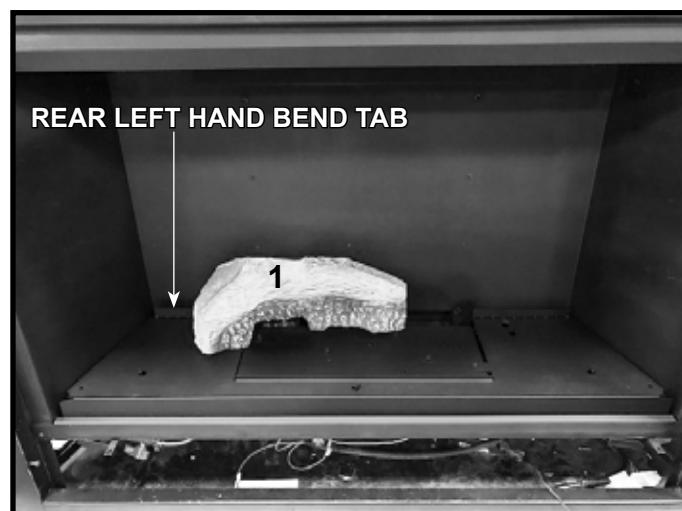

Figure 4. Install Log #1
2. LOG #1: Locate and install the Log #1 by installing the right end of the log over the rear log pin. Then rotate the left end of the log until it contacts the rear left hand bend tab. See Figure 4.